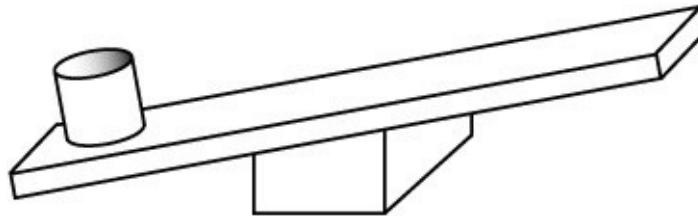

Figure 33-2 Here the “painter” has gone too far.
4. Predict how far the 20-gram mass (the "painter") can be placed from the center without tipping the meterstick, as is the case shown in Figure 33-2.